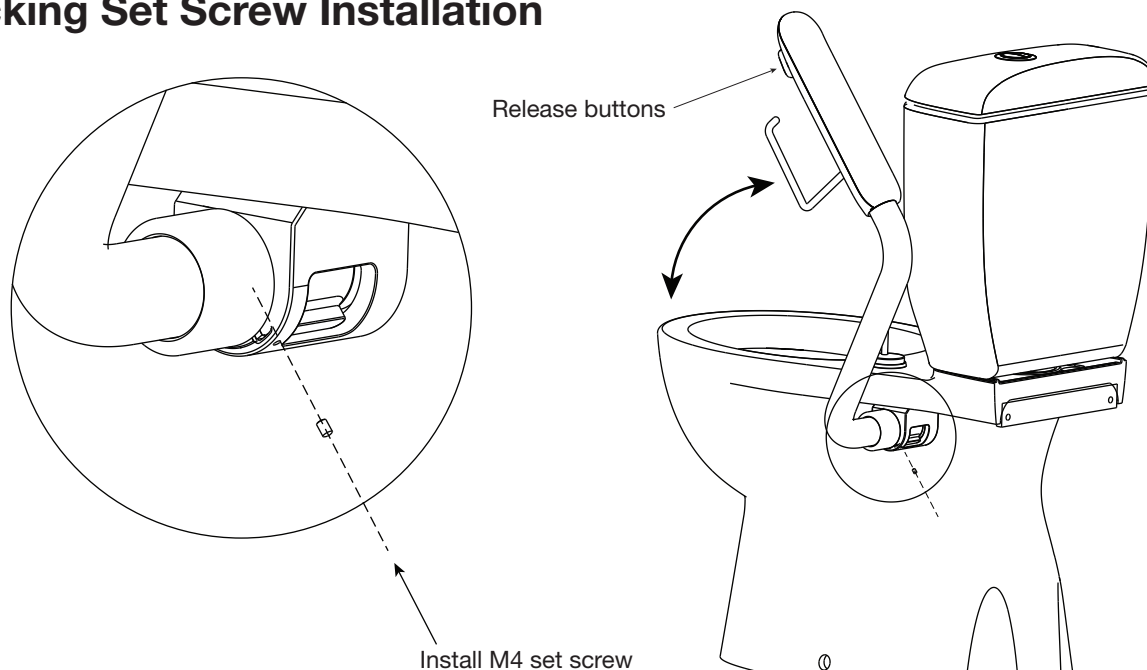

Fig. 12
13. Install the two (2) M4 locking set screws into hingblock as shown in **Fig. 12**. Press the release button and ensure that the arms rotate up and down freely and the release mechanism is working satisfactorily. Arms should lock in both upper and lower positions. Button releases lock.